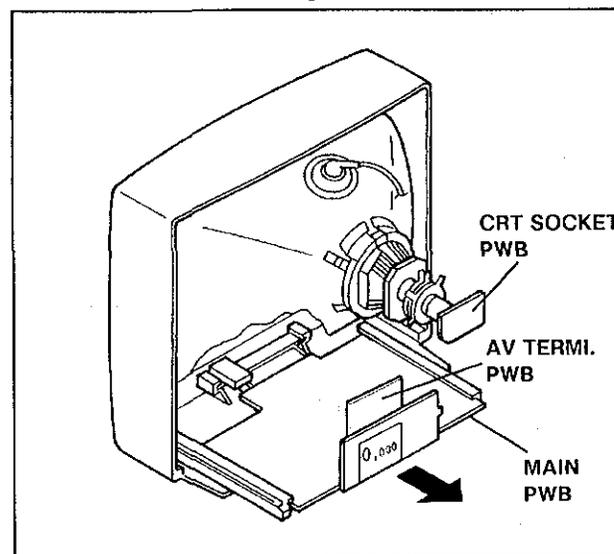

Fig. 2
1. Withdraw the MAIN P.W.board backward along the rail.(Fig. 2)